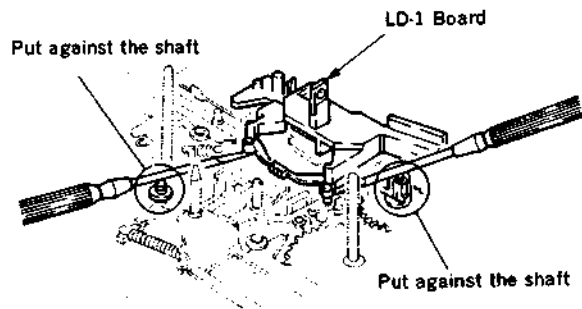

Fig. 1
- (1) Remove the Cassette-up Compartment Assembly referring to Section 2-13.
- (2) Disconnect the connector (CN301) on the RS-31 Board.
- (3) Remove the T Reel Table Assembly referring to Section 7-2-14.
- (4) Remove the stopper washer and remove the Drive Gear B Assembly.
- (5) Remove the LD-1 Board. (fig. 1)
- (6) Remove the Lock Slider M Assembly referring to Removal Steps (3) to (5) of Section 7-2-20.
- (7) Remove the tension spring and remove the B Release Arm Assembly.
- (8) Check that the M-mode is put into **EJECT** mode.
- (9) Remove the stopper washer and remove the Mode Output Gear.
- (10) Release the two claws of the Control Motor Cover and remove the Push Switch.
- (11) Disconnect the connector (6P) on the M-switch Assembly.
- (12) Remove the two fixing screws and remove the Control Motor Cover L.
- (13) Remove the fixing screw and while lifting up the M-switch Assembly, push the T.S Release Arm in the direction of the arrow A. Then push the T Main Brake Assembly in the direction of the arrow B and remove the M-switch Assembly.